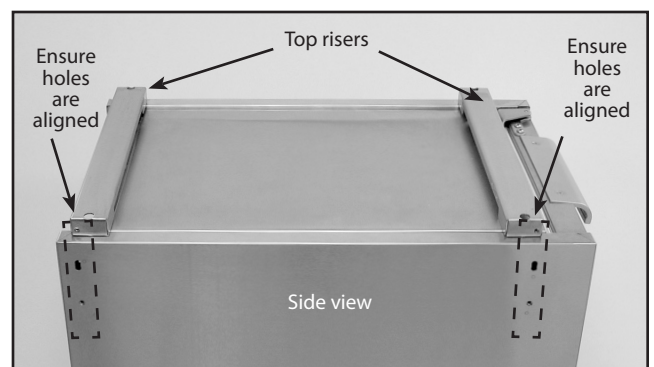

Fig. 10
6. Place both top risers on top of unit as shown in Fig. 10.
7. Using the machine screws provided (10-24 X 1-1/8) attach risers to side panels. Take note of alignment of the holes on the riser and side panels (Fig. 10).